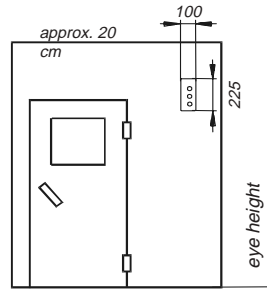

Fig. 2
- The controller is sunk partly in the booth wall. To this end, a right-angled opening of 225 x 100 (height x width) must be inserted in the tongued grooved and beaded timbers (Fig. 2). The booth construction should enable a feedthrough for connection and junction cables upwards.